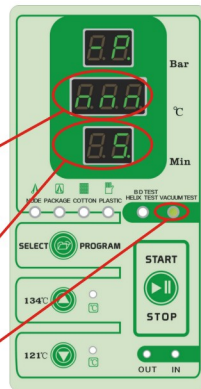

Fig.7.4-12
- (1)press “SELECT PROGRAM” button,indicator beating to “vacuum test” program.
- (2)the vacuum pump start vacuuming,the operation display window appear 5 minutes countdown,vacuumping to the limit.(Fig.7.4-12)
- (3)when the pressure reach limit value,the vacuum pump stop work. this pressure is maintained for 5 minutes and then measured P2.(Fig.7.4-12)